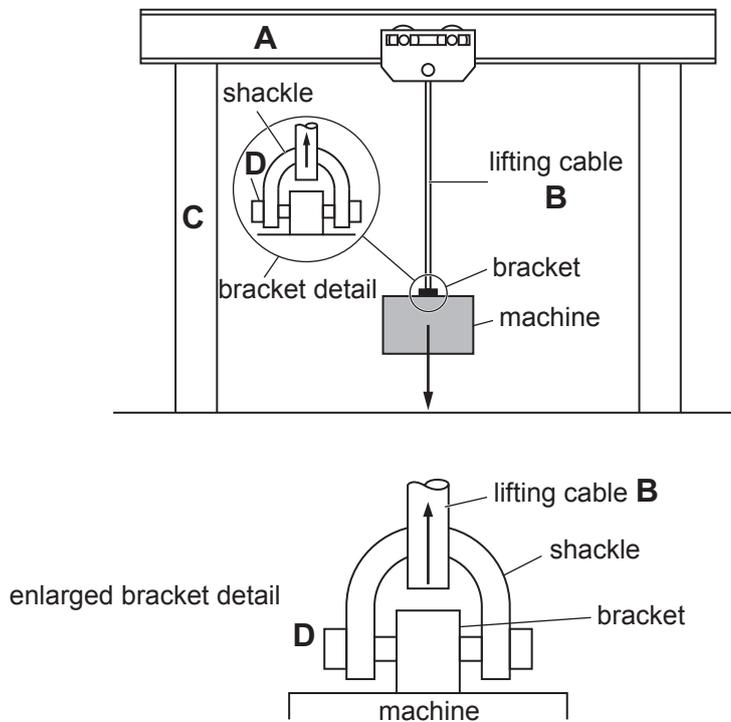

Fig. 7
- (b) Fig. 7 shows a machine being lifted by a crane in a factory. The machine has a bracket welded to the top. The lifting cable is attached to this bracket using a shackle and a locating pin **D** as shown.